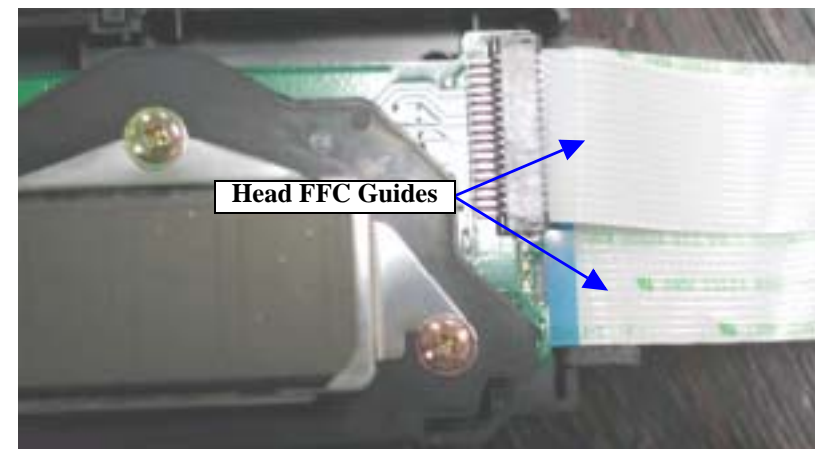

Figure 4-62. Removing the Printhead
- When reinstalling the Printhead, fully take care not to bring the Nozzle surface into contact with the Carriage Unit. Refer to Figure 4-62, "Removing the Printhead".
- After removing the Printhead (when not changing it), place it so that the Head surface does not make contact with the desktop. Refer to Figure 4-62, "Removing the Printhead".